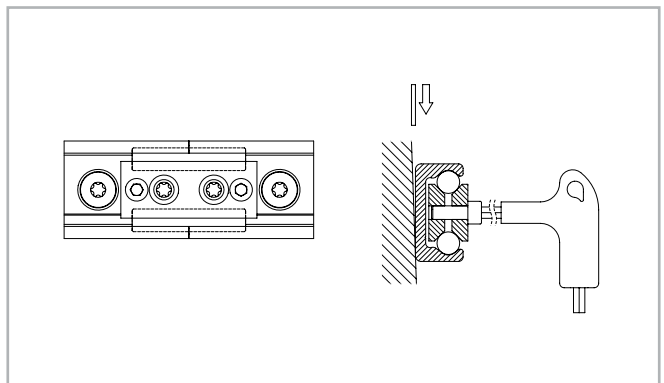

Fig. 174
- (3) Place the alignment fixture on the rail joint and tighten both set screws uniformly, until the raceways are aligned (see fig. 174).
- (4) After the previous step (3) it must be checked if both rail backs lie evenly on the mounting surface. If a gap has formed there, this must be shimmed.